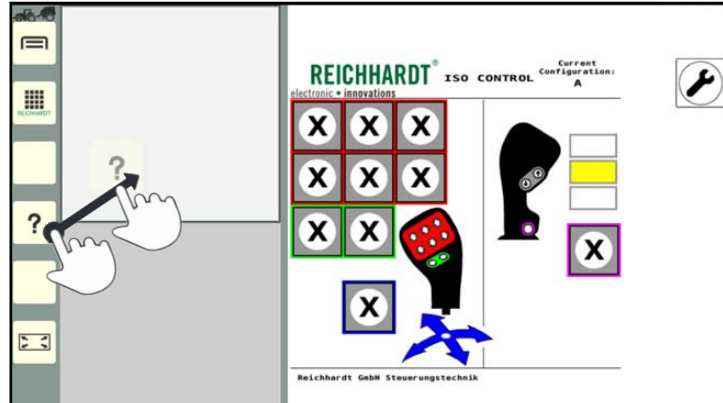

Fig. 72: Pressing and holding the application shortcut in the sidebar
1. Drag the shortcut from the sidebar into any window (see Fig. 72).